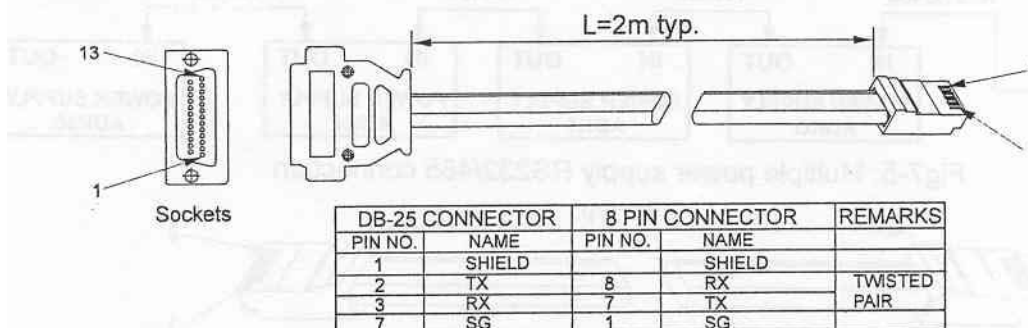

Fig.7-2: RS232 cable with DB25 connector (P/N: GEN/232-25)
- Refer to Figures 7-2, 7-3 and 7-4 for available RS232 and RS485 cables.